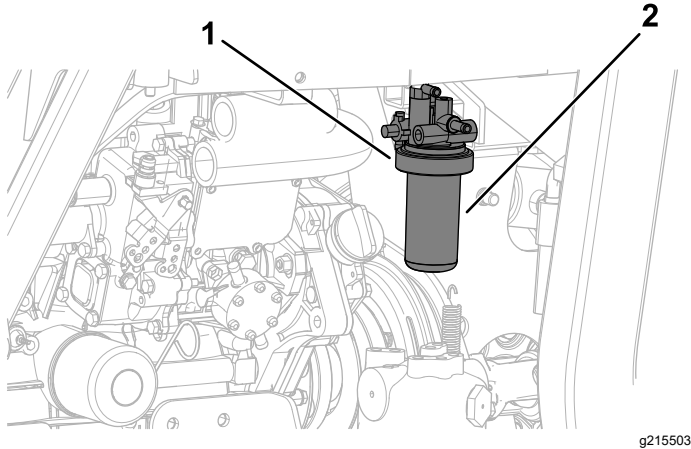

Figure 72
1. Clean the area around the fuel-filter head (Figure 72).
2. Remove the filter and clean the filter-head-mounting surface (Figure 72).